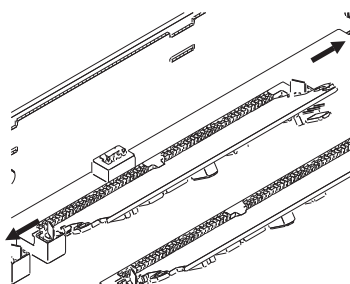

figure 1.7.1
1.9 Connecting Inputs. Input connections are made via the 3-pin XLR-male type on the rear side of the amplifier. The connection for "LQ" model (four channels) is shown in figure 1.7.1; on the right side of the figure is shown the polarity of the XLR connector.